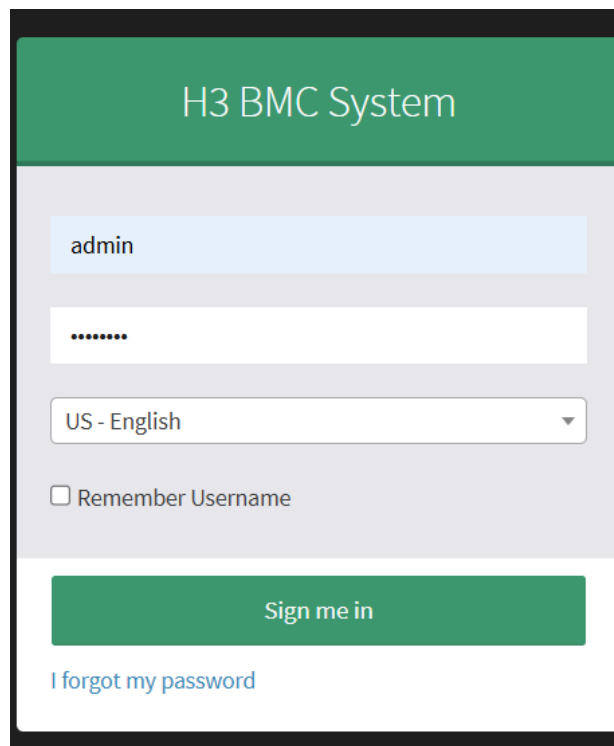

Figure 99. BMC System Log-in page
3. When prompted, log in using the default login credentials (see Figure 99).